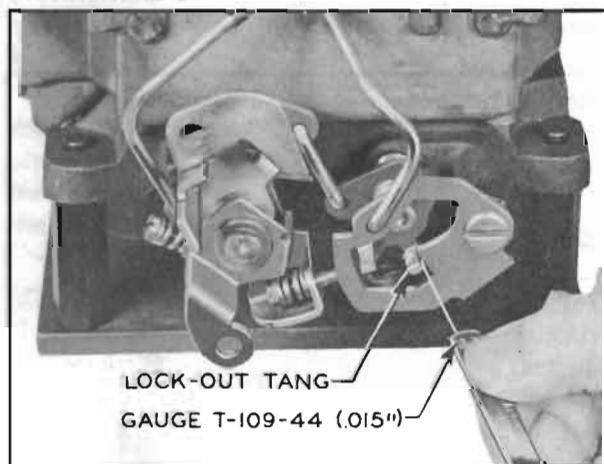

Figure 3-86—Checking Secondary Lock-Out Adjustment
6. Close choke valve so that secondary throttle lock-out tang is on lock-out step of fast idle cam. Check clearance between tang and step using .015" end of Gauge T-109-44. See figure 3-86.